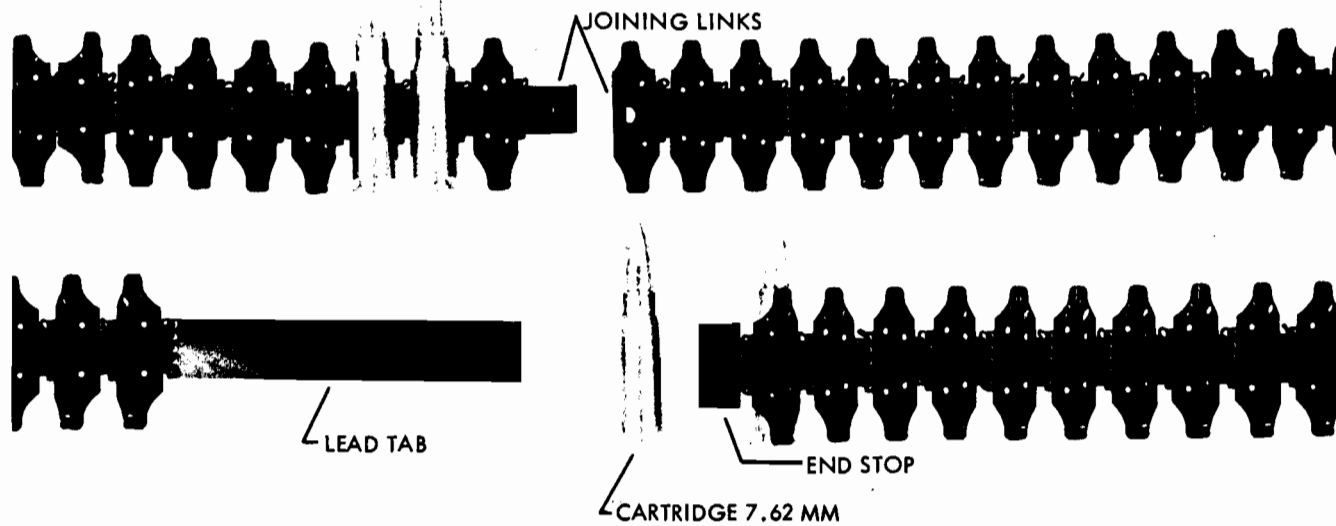
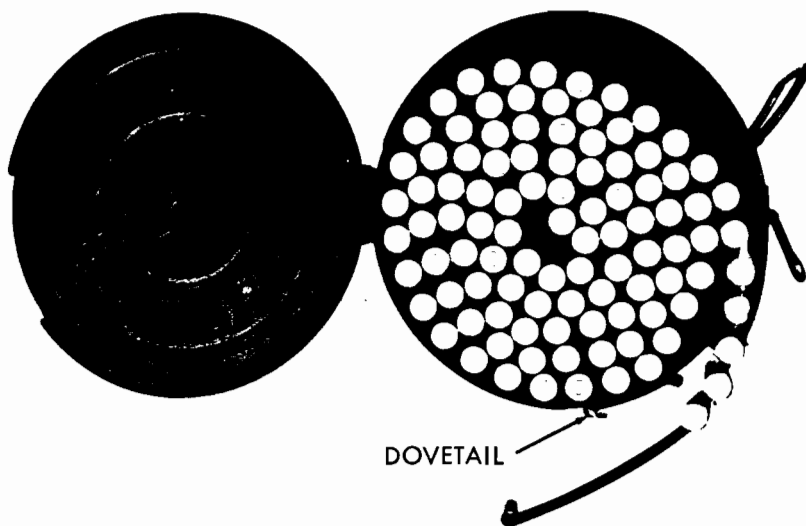

Figure 67. Metallic belt for Degtyarev squad light machinegun.
Figure 68. Drum magazine for Degtyarev squad light machinegun.
b. The RPD is an automatic, gas-operated, bipod-mounted weapon firing from the open-bolt position. It is fed from metallic-link belts (fig. 67); two coupled 50-round sections are carried in a drum-type belt container under the gun. The RPD fires the 7.62 x 39-mm M1943 cartridge (sec. VI).
a. Load the metallic-link belt by inserting a cartridge into each link and press it into the link until the positioning tab snaps onto the rim of the cartridge (fig. 67). Belt sections can be joined together to make the 100-round-capacity belts by coupling the end link on one belt with the joining link on the other belt; once connected, the links are held together by inserting a cartridge. Turn the lock on the drum and open its cover; coil the belt so that the lead tab (fig. 68) is on the outside and insert the belt into the drum. Only the lead tab should protrude from the drum.